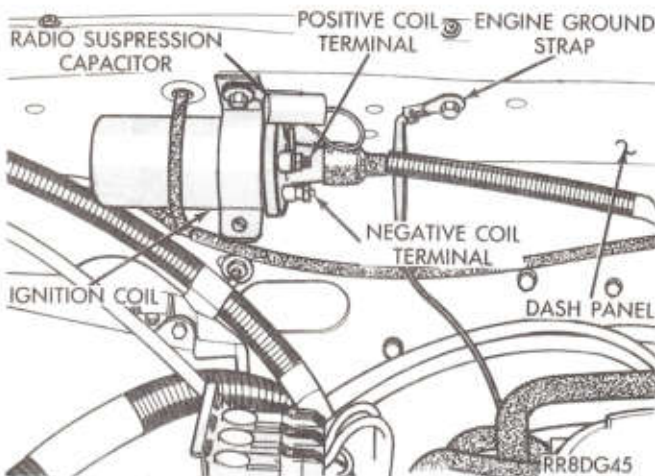

Fig. 6—Ignition Coil Connections
(8) Check Ignition Coil Electrical Connections (Fig. 6).